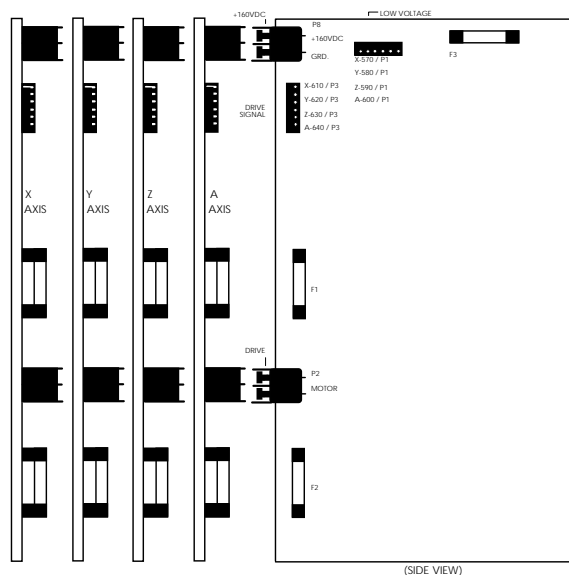

Fig. 4-5 Servo DRIVER boards.
7. Reconnect all leads to all boards at this time (refer to Fig. 4-5 for proper connections). Ensure the red and black leads go to the appropriate connections.